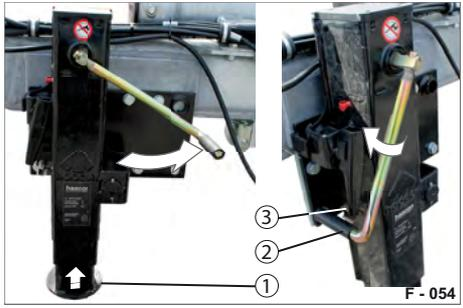

Fig. 53 Support foot retracted
- ▶ Using the hand crank (Fig. 53/2), crank the support foot (Fig. 53/1) - only after coupling the trailer - fully up.
- ▶ Press against the compression spring (Fig. 51/3) and turn the hand crank so that the handle points to the retaining plate (Fig. 53/3). The hand crank is secured.